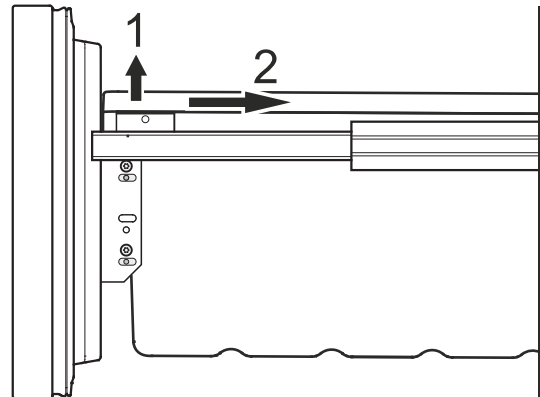

Figure 17
- Unlatch the container on the left and right corners by pulling upwards (1) - **Figure 17.**
- Slide the container backwards (2) - **Figure 17.**